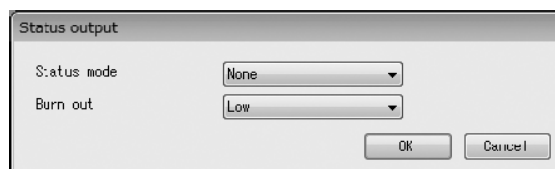

Fig. 3-39
- (1) Click "Setup (S)" from the menu, and then click on "Status output" from the drop-down list of "Outputs".
- (2) The following window (Fig. 3-39) will be displayed. Here, set the function of status output.